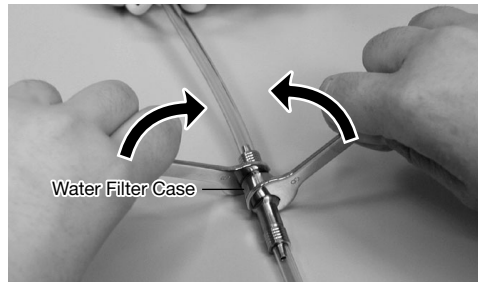

Fig.25
(3) Changing Water Filter (Use of City Water)
① Close the water valve of the dental unit to which PRESTO AQUA II is connected. Mount two (5x8) spanner wrenches as shown in Fig.25, and turn in the direction shown. When the water tube becomes twisted as a result of this, relieve the twisting by turning it, as its end on the control unit side is free to turn.